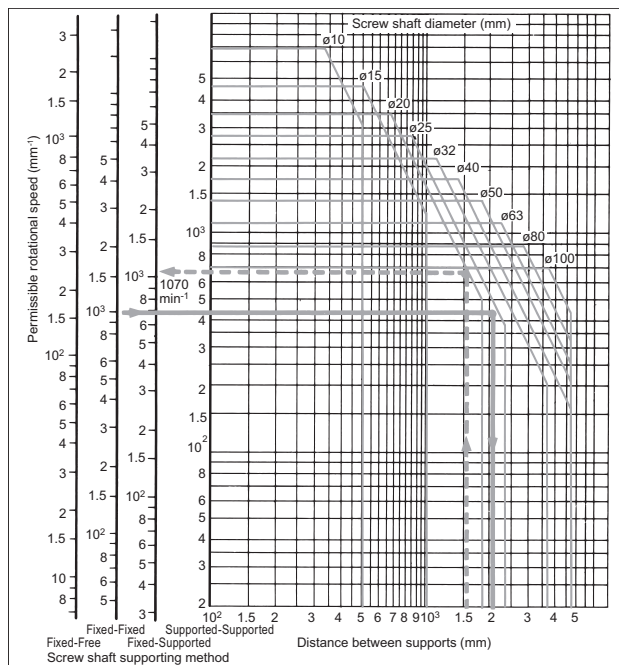

Figure 8 Diagram of the permissible rotational speed
The optimum shaft diameters for various rotational speeds are shown in Figure 8.
1. The vertical dotted line in Figure 8 shows that the distance between supports is 1500 mm. Find the point of intersection with the diagonal line representing the critical speed of a screw shaft with a diameter of 20 mm.
1. The thick vertical line in Figure 8 shows that the distance between supports is 2000 mm. Find the point of intersection with the horizontal line representing the permissible rotational speed “1000 min^{-1} ” on scale for the “Fixed-Fixed” method of screw shaft support.